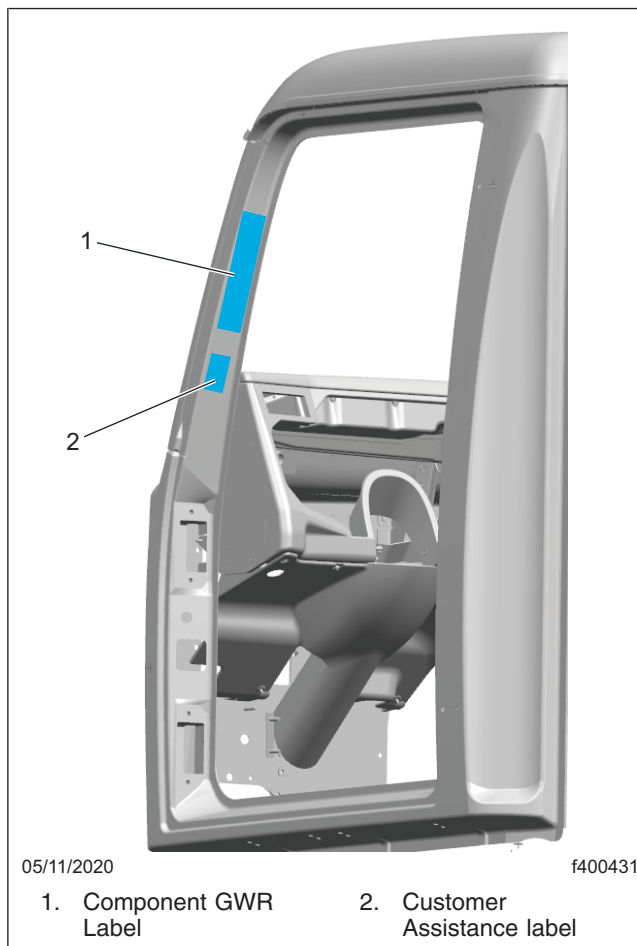
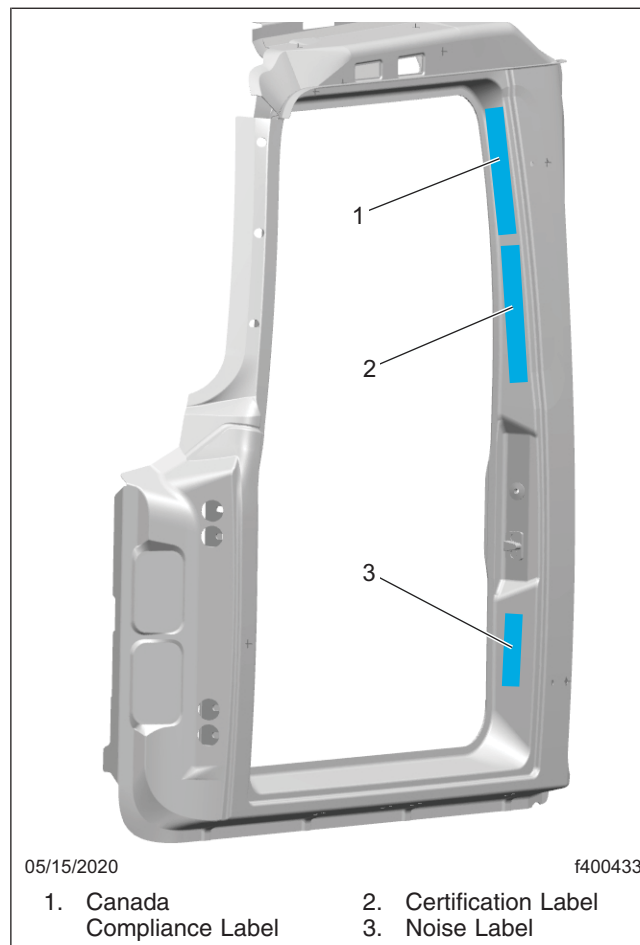

Fig. 8, Component GWR Label Location, Western Star Trucks, U.S.
Fig. 10, Canada Compliance Label Location, Western Star Trucks, U.S.
3. Open the driver side door, and locate the component GWR label. See Fig. 8. See Fig. 5 for an example of a Freightliner component GWR label.
3. Open the driver side door, and locate the component GWR label and the Canada Compliance label. See Fig. 8 and Fig. 10. See Fig. 5 for an example of a Freightliner component GWR label.